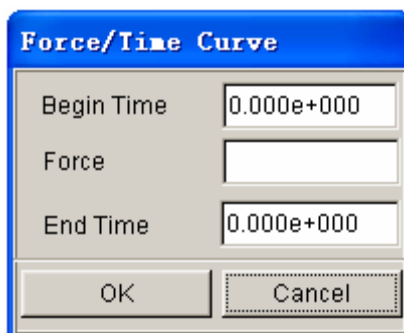

Figure 9.2.8 Auto Force Curve dialog box
- If FORCE CURVE is checked, the FORCE CURVE dialog box (as shown in Figure 9.2.8) is displayed.